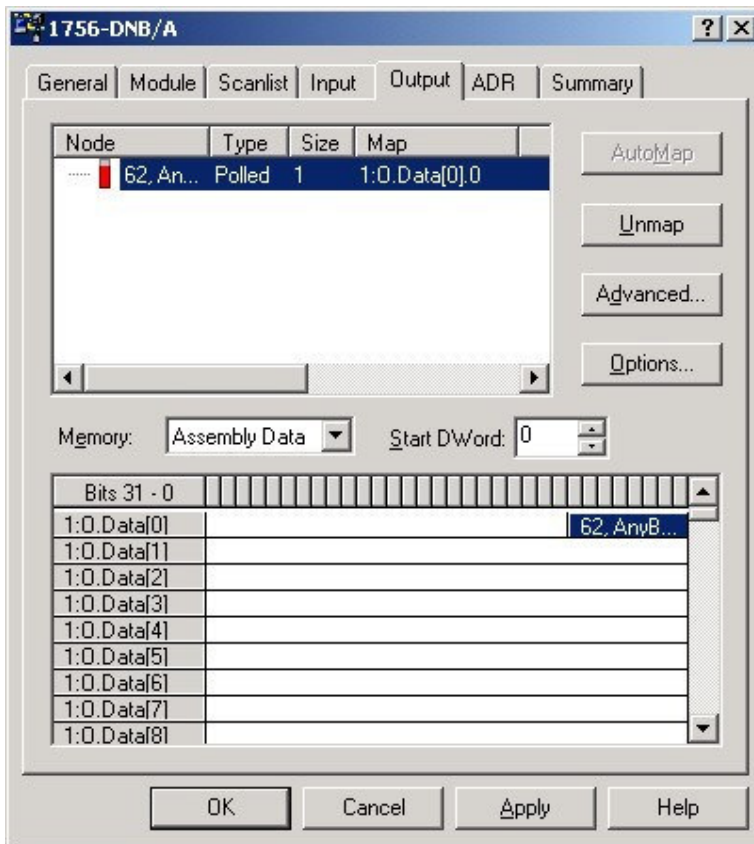

Figure 6
4. Verify the mapping of the Outputs by selecting the Output tab in the scanner's configuration window. Figure 6 gives an example mapping.